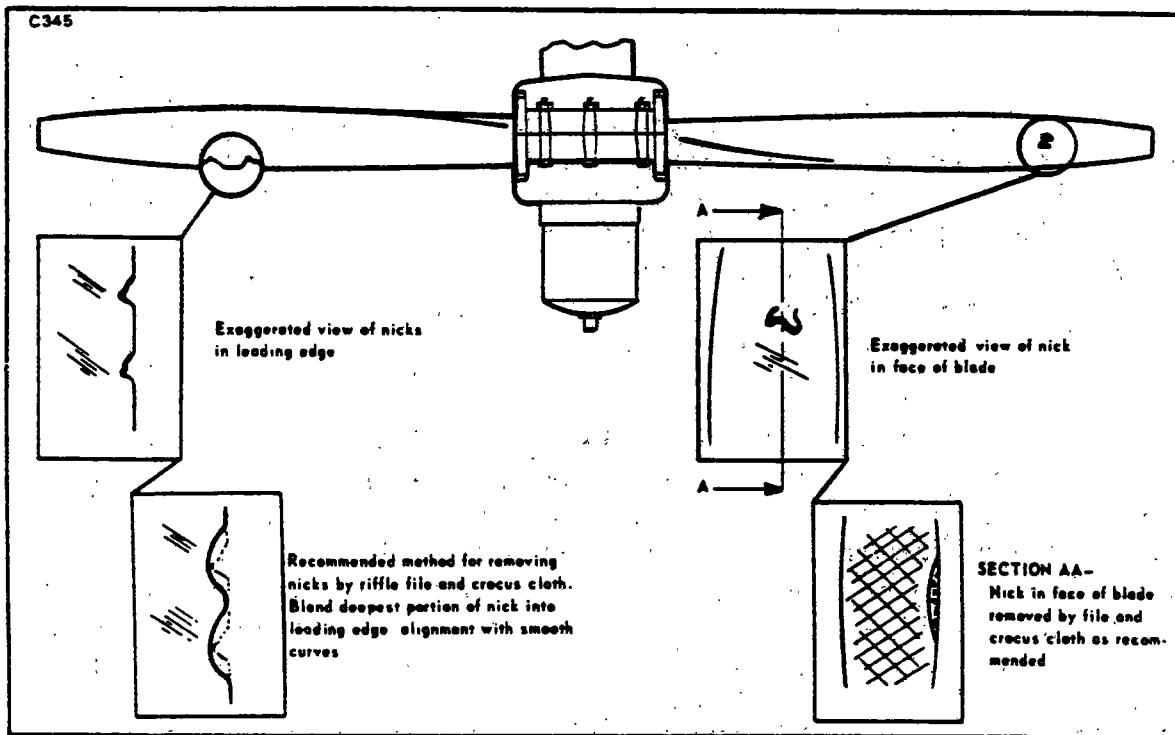

Figure 8-1. Typical Nicks and Removal Method
- b. Nicks in the leading edges of the blades should be filed out and all edges rounded, as cracks sometimes start from such places. Use fine emery cloth for finishing. (Refer to Figure 8-1 for propeller blade care.) A propeller with severe nicks, scratches, corrosion or cracks should be returned to a propeller overhaul shop or the manufacturer for inspection and repair.
- g. Inspect blades for damage or cracks. Nicks in leading edges of blades should be filed out and all edges rounded, as cracks sometimes start from such places. Use fine emery cloth for finishing. (Refer to Figure 8-1 for propeller blade care.) Each blade face should be sanded lightly and painted, when necessary, with a flat black paint to retard glare. A light application of oil or wax may be applied to the surfaces to prevent corrosion.